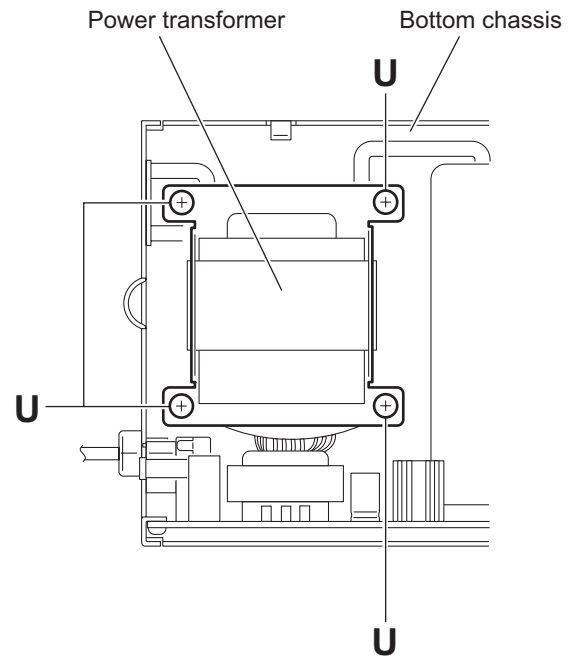

Fig.25
(2) From the top side of the main body, remove the four screws **U** attaching the power transformer. (See Fig.25.)